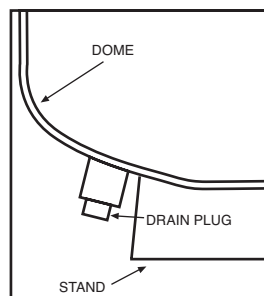

Figure 2
4. Remove drain plug (Figure 2).
23. Install drain plug (Fig. 2) using a liberal amount of TITE-SEAL COMPOUND 55 or equal. This connection must be absolutely airtight.